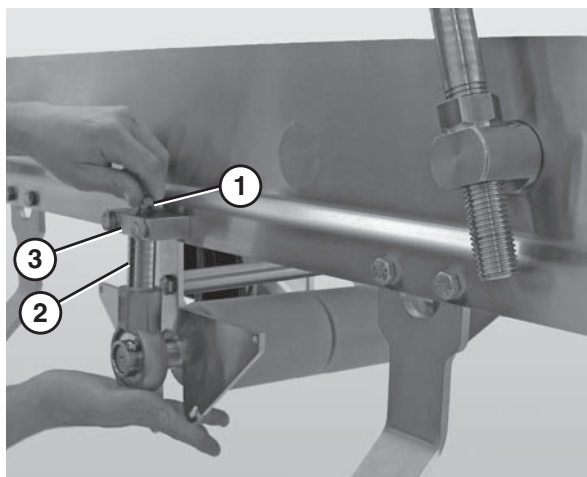

Figure 68
14. Remove the bolt (**Figure 68, item 1**) that connects the drive shaft assembly (**Figure 68, item 2**) to the block shaft mount (**Figure 68, item 3**).